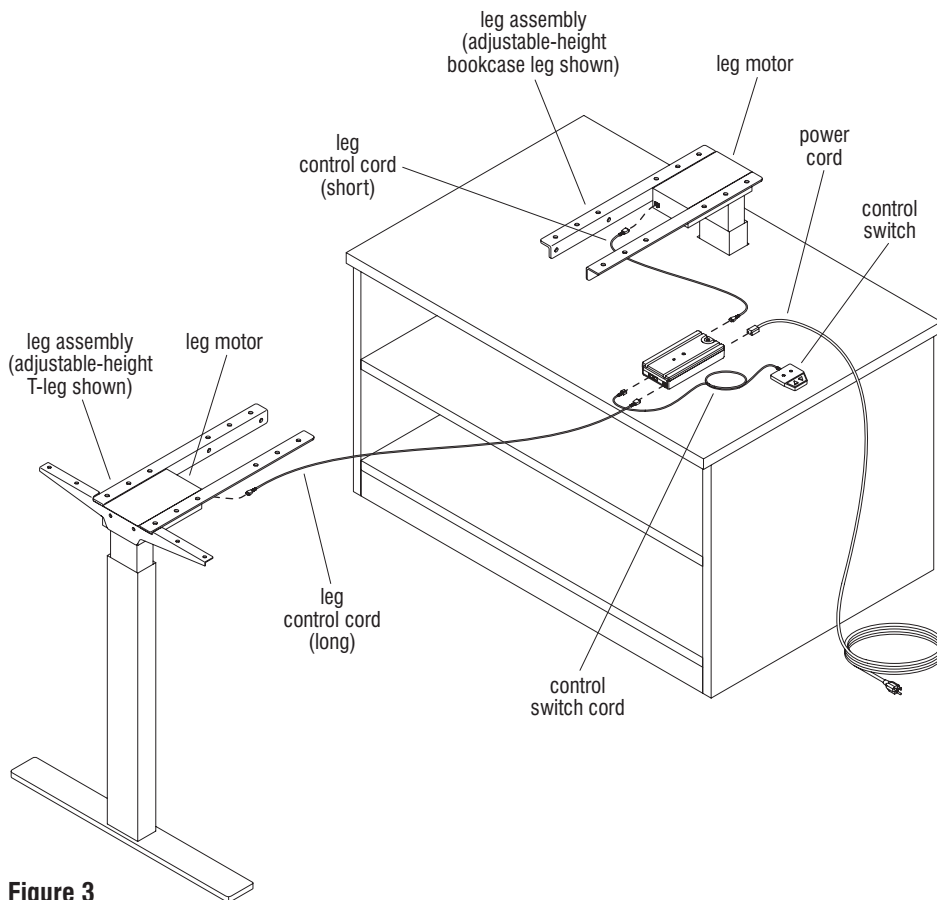

Figure 3
1. Plug the longer leg control cord into one of the two rectangular sockets on the control box, then route the opposite end of the cord to the leg that will be farthest from the control box and plug it into the leg motor rectangular socket (Figure 3).
2. Plug the shorter leg control cord into the remaining rectangular socket on the control box, then route the opposite end of the cord to the leg that will be closest from the control box and plug it into the leg motor rectangular socket (Figure 3).
3. Plug the control switch cord into the corresponding socket on the control box (Figure 3).
4. Plug the power cord into the remaining open socket on the control box. Plug the power cord into a grounded outlet power source, only after all other control box components have been installed (Figure 3).